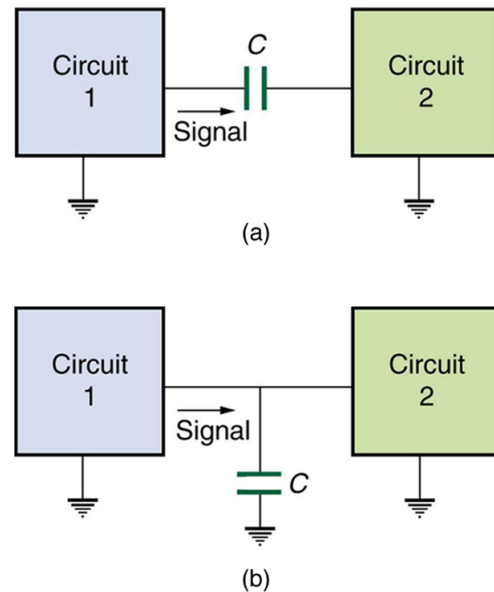

FIGURE 23.52 Capacitors and inductors. Capacitor with high frequency and low frequency.
27. Explain why the capacitor in Figure 23.52\(a\) acts as a low-frequency filter between the two circuits, whereas that in Figure 23.52\(b\) acts as a high-frequency filter.
28. If the capacitors in Figure 23.52 are replaced by inductors, which acts as a low-frequency filter and which as a high-frequency filter?